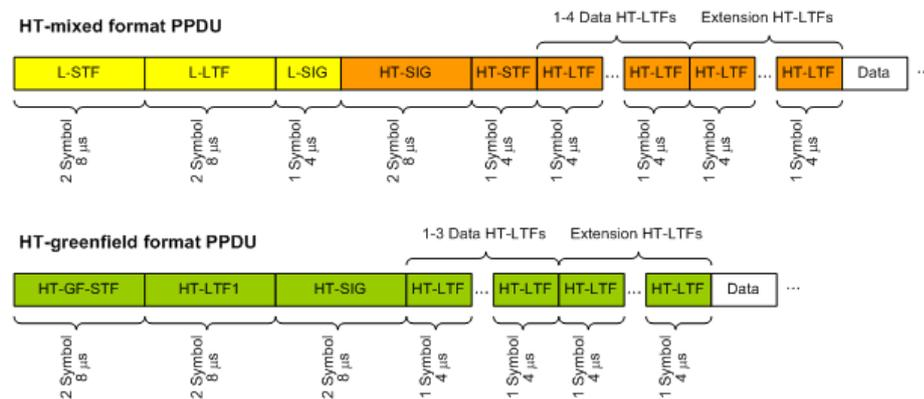

Figure 3-4: Training fields (TF) in the preamble of PPDUs in IEEE 802.11n standard
For each space-time stream, at least one training field (the (V)HT-LTF) is included in every PPDU preamble (see Figure 3-4). Each sender antenna transmits these training fields, which are known by the receive antenna. The effective channel can be calculated from the received (and known) (V)HT-LTF symbols of the preamble, without knowledge of the spatial mapping matrix or the physical channel. Thus, the effective channel can always be calculated.